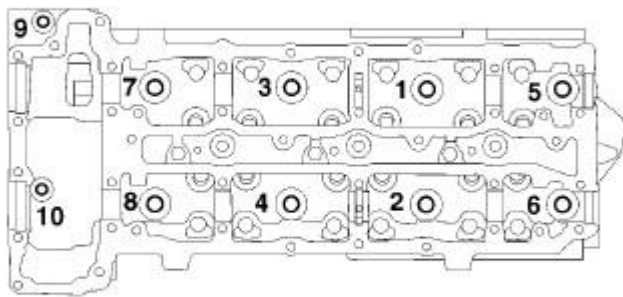

Fig. 96: CYLINDER HEAD TIGHTENING SEQUENCE
60. Using the sequence shown in **Fig. 96**, remove the cylinder head bolts.